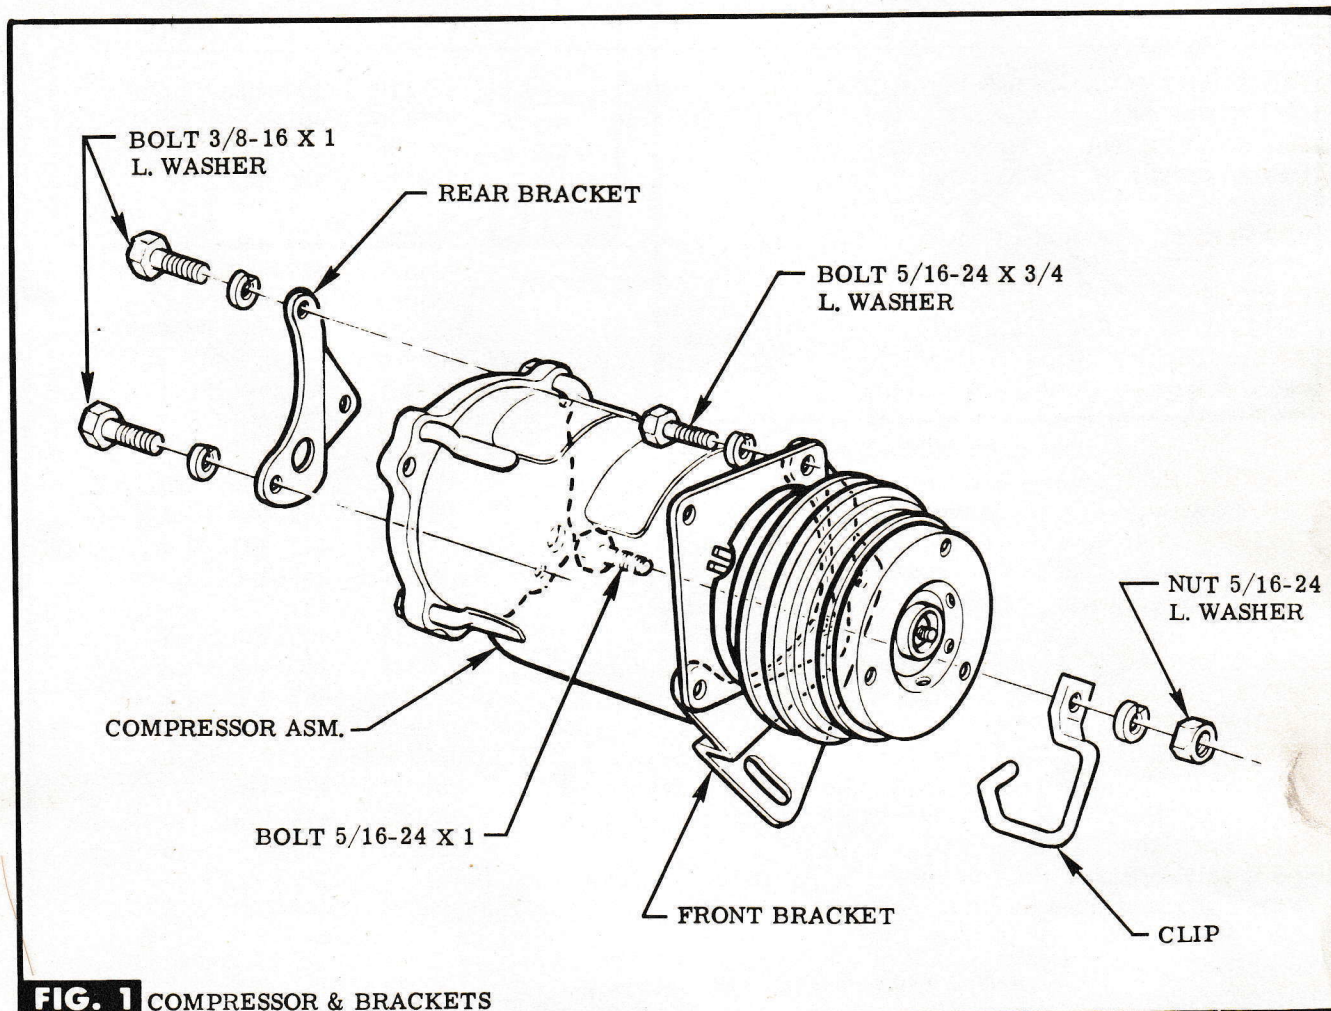

FIG. 1 COMPRESSOR & BRACKETS
STEP 4 LOOSELY ASSEMBLE REAR MOUNTING BRACKET TO COMPRESSOR WITH PROVIDED ATTACHING PARTS. SEE FIG. 1.
STEP 5 SECURE FRONT MOUNTING BRACKET TO COMPRESSOR AT L.H. UPPER & LOWER HOLES WITH ATTACHING PARTS PROVIDED. SEE FIG. 1.
STEP 6 ATTACH CLIP TO FRONT OF COMPRESSOR WITH ATTACHING PARTS PROVIDED. SEE FIG. 1. **NOTE** Outboard end of clip must loop over edge of front bracket.
STEP 1 INSTALL COMPRESSOR SUPPORT & MOUNTING PLATE TO ENGINE WITH ATTACHING PARTS PROVIDED. SEE FIG. 1. **NOTE** (Except Chevy L-6) Attach provided battery ground wire to front of support with front attaching bolt.
STEP 3 INSTALL COMPRESSOR TO SUPPORT WITH PROVIDED ATTACHING PARTS. SEE FIG. 1.
STEP 4 (EXCEPT CHEVY L-6 ENGINE) ATTACH COMPRESSOR GROUND WIRE TO COMPRESSOR & FRONT BRACKET WITH ATTACHING PARTS PROVIDED & FLAT WASHER PROCURED FROM DEALER'S STOCK. SEE FIG. 1.
CABLE TO COMPRESSOR & FRONT BRACKET WITH ATTACHING PARTS PROVIDED. SEE FIG. 1.
STEP 6 INSERT SHIMS BETWEEN REAR BRACKET & COMPRESSOR AS REQUIRED TO TAKE UP SLACK. TIGHTEN BOLTS. SEE FIG. 1.
STEP 2 INSTALL CRANKSHAFT PULLEY (PROCURED FROM DEALER'S STOCK) TO EXISTING HARMONIC BALANCER WITH PROVIDED SCREWS. SEE FIG. 1.